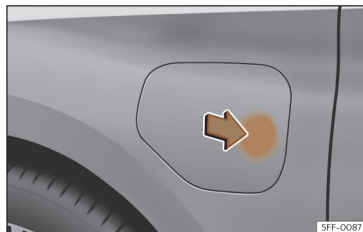

Fig. 62 Opening the charging socket cover.
- Press the battery's charging socket cover in the area of the arrow to open it >>> **Fig. 62.**